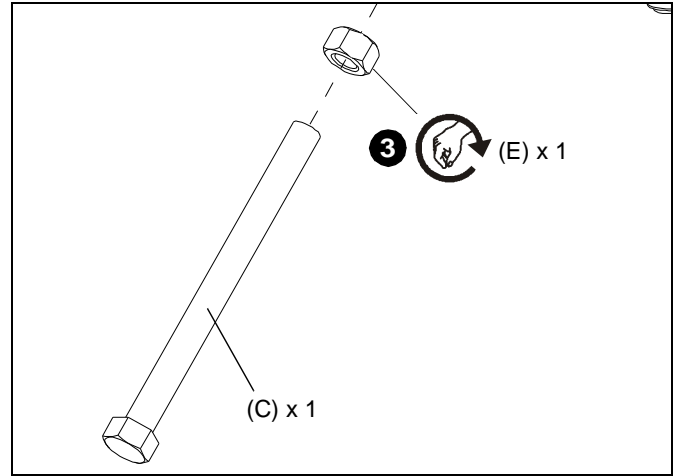

Figure 2
3. Install 3/8" hex nut (E) to 3/8-16 x 4-1/2" hex head tap bolt (C). (See Figure 2)